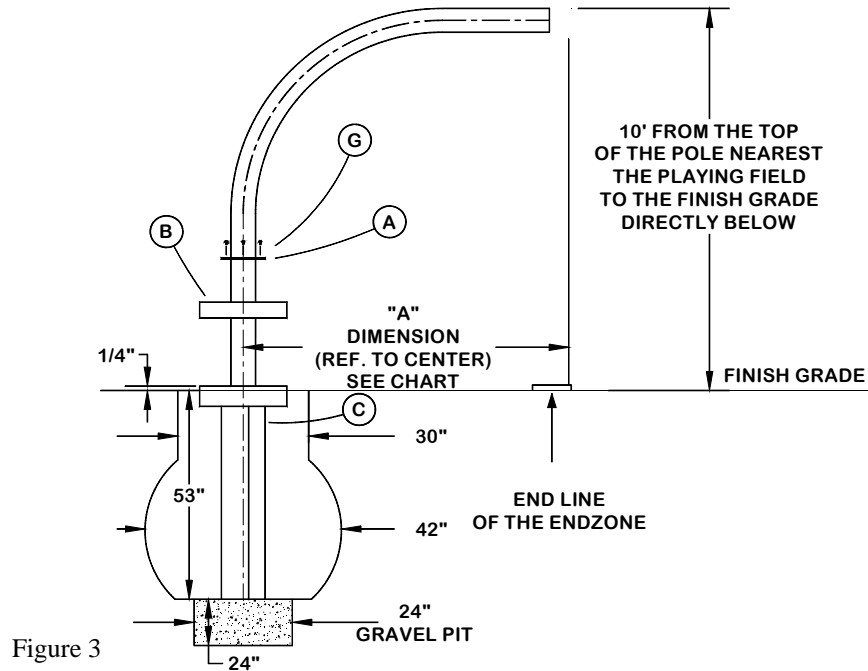

Figure 3
2. You will need to locate each ground socket so that it is centered on the playing field. See chart for the distance behind the field end line to locate the center of the socket for each model. Dig a 30" diameter hole that is a minimum of 53" deep at each of these locations, it is recommended to bell out the bottom of the hole to 42" in diameter to strengthen the footing, and to dig a 24" diameter gravel pit 24" deep. (See Figure 3)
4. Before mixing the concrete place the ground socket in the hole on top of the gravel pit that you prepared. This will prevent the concrete from entering the tube and allow future water drainage. Position the socket so that it is level, plumb and square with the field. The top of the square pan should be approximately 1/4" above the finish grade of the playing field. (See Figure 3)
8. Place the pole assembly into the socket. Using the 3/4" x 3" *hex bolts* (I), 3/4" *jam nuts* (J) and 3/4" *lock washer* (K) loosely secure the gooseneck pole so that it is plumb and that the front end of the pole is 5" behind the end line. Two of the 3/4" x 3" *hex bolts* (I) must go through the holes provided in the *anti rotation collar* (L). (See Figure 3 & 4)